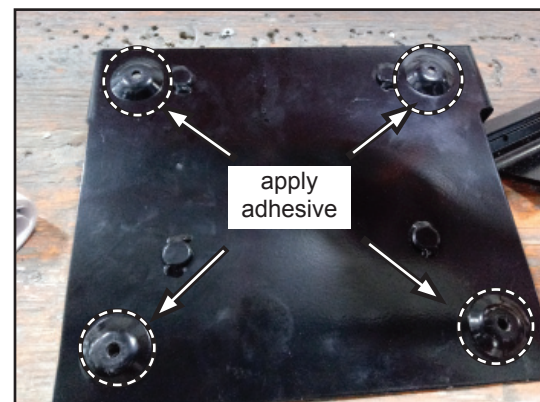

Figure 11
14. With the plate removed, temporarily turn it over so that the studs are facing down. Around each mounting “foot”, apply a 1/8” bead of Sikaflex®-221 or 3M™ #540 adhesive. See Figure 11.